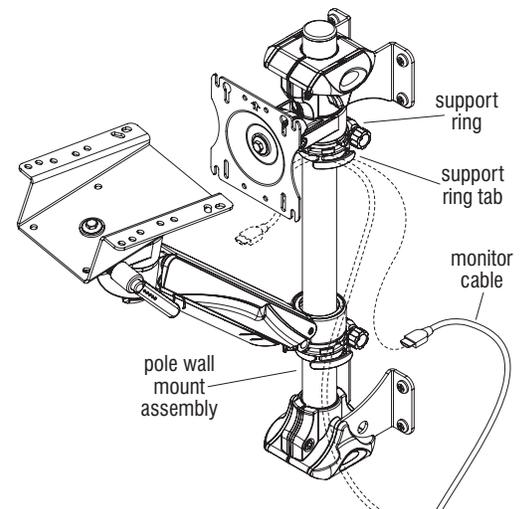

Figure 6
11. Insert monitor cables through support ring tabs (Figure 6).